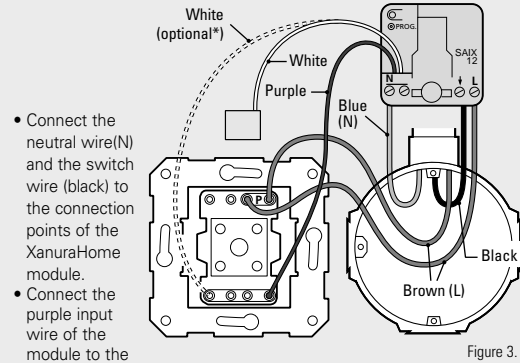

Figure 3.
- Connect the neutral wire (N) and the switch wire (black) to the connection points of the XanuraHome module.
* The connection of the white wire to the switch (e.g. to a series switch) is optional (see Figure 3). If it is not connected then this wire should be insulated.